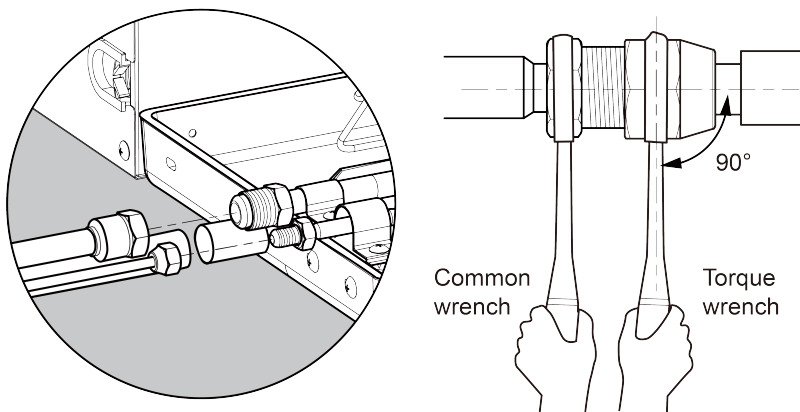

Fig.4.4.1
- (1) Before welding pipes and sealing caps, please release the residual pressure in the pipes. Direct welding may lead to property loss or personal injury.
- (2) Conform to the following principles during piping connection: connection pipeline should be as short as possible. The height difference between indoor and outdoor units should be as short as possible. Keep number of bends as little as possible. The radius of curvature should be as large as possible.
- (3) Weld the connection pipes between indoor and outdoor unit. Please strictly conform to the requirements for welding process. Rosin joints and pin holes are not allowable.
- (4) When laying the pipes, be careful not to deform them. The radius of bending parts should be more than 200mm(7-7/8inch). The pipes cannot be repeatedly bent or stretched, otherwise the material will get harden. Do not bend or stretch the pipe over three times at the same position.
- (5) Please use a torque spanner to connect union nut on the indoor unit. See Fig.4.4.1.